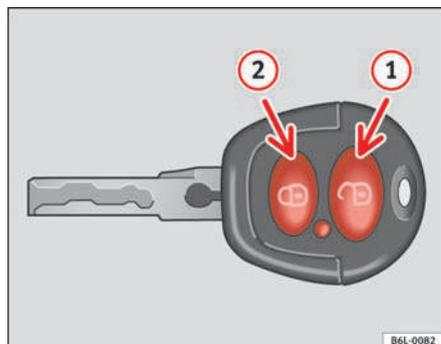
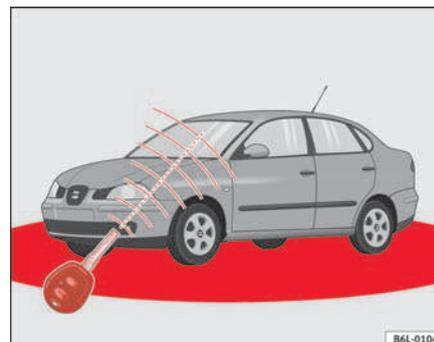

Fig. 48 Assignment of buttons on the remote control key
Fig. 49 Range of the remote control
The range (red zones) ⇒ fig. 49 of the remote control is shown in the diagram. The maximum range depends on a number of circumstances.
To **open**, place the key within the range, pointing towards the vehicle and briefly press the open button  ⇒ fig. 48 . The indicators flash twice. To ►
lock the vehicle, press the lock button briefly  ⇒ fig. 48 . The indicators flash once.
By pressing the lock button **twice**  ⇒ page 78, fig. 48  both the locking security mechanism (double lock) and the volumetric alarm* are deactivated but the perimetric alarm* remains active and this is indicated by the indicator light on the driver's door.
When the button  ⇒ page 78, fig. 48  is pressed once, the driver's door is unlocked, all others remain locked.
Press the button  ⇒ page 78, fig. 48  twice to unlock all doors.
- The remote control functions only when you are in range ⇒ page 78, fig. 49 (red area).
- Use both keys that have been delivered with the vehicle; the key with the remote and the normal key ⇒ page 78, fig. 48 ⇒ page 78, fig. 49. ▶